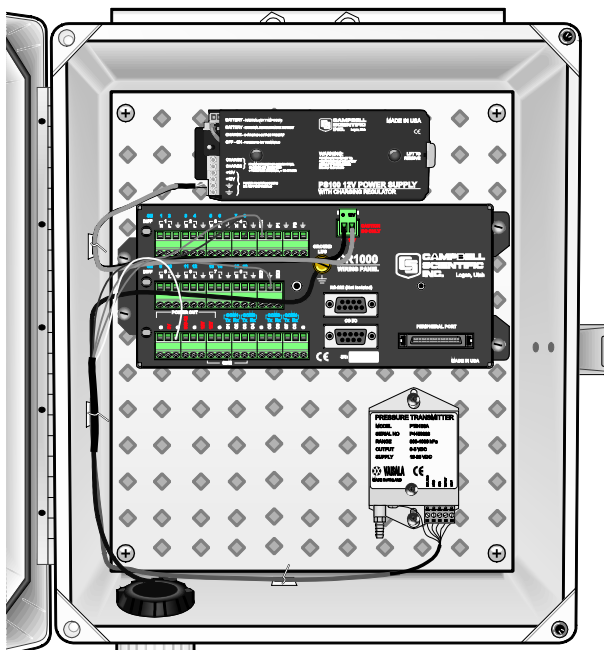

FIGURE 8-6. Routing and Wiring Sensor Leads to the Datalogger
1. After the sensors have been mounted, route the sensor leads through the entry hole in the bottom of the enclosure and to the datalogger. Secure the leads to the left side of the enclosure using cable ties and tabs (FIGURE 8-6). Any excess cable should be neatly coiled and secured to the tabs.